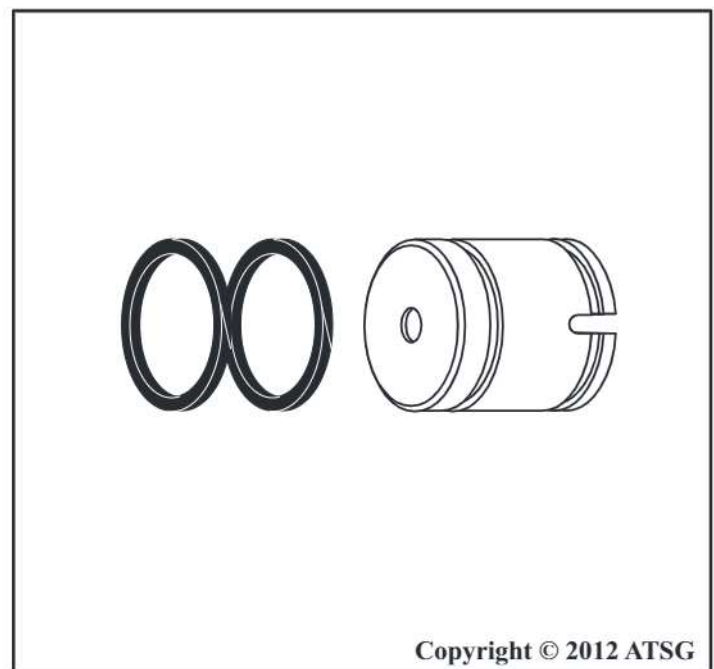

Figure 272
76. Install new accumulator piston seals on all six accumulator pistons, as shown in Figure 272.